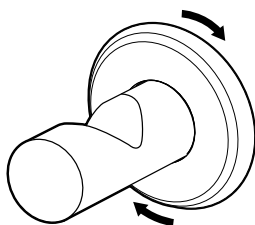

Fig. 6
- Use the provided screws to secure the bag hook in position, then take the escutcheon plate and screw it over the mounting plate to cover the mounting screws. **Fig. 6**